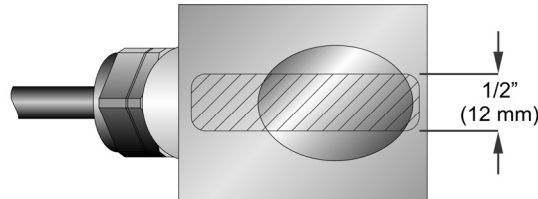

Figure 2.2 Transducer Couplant Application
1. Place a single bead of couplant, approximately 0.50 inch [12mm] thick, on the flat face of the transducer (**Figure 2.2**). Generally, a silicone-based grease is used as an acoustic couplant, but any grease-like substance that is rated not to “flow” at the temperature that the pipe may operate at, will be acceptable.
5. Place a single bead of couplant, approximately 0.50 inch [12 mm] thick, on the flat face of the transducer. See **Figure 2.2**. Generally, a silicone-based grease is used as an acoustic couplant, but any grease-like substance that is rated not to “flow” at the temperature that the pipe may operate at, will be acceptable.
4. Place a single bead of couplant, approximately 0.25 inch [6 mm] thick, on the flat face of the transducer. See **Figure 2.2**.